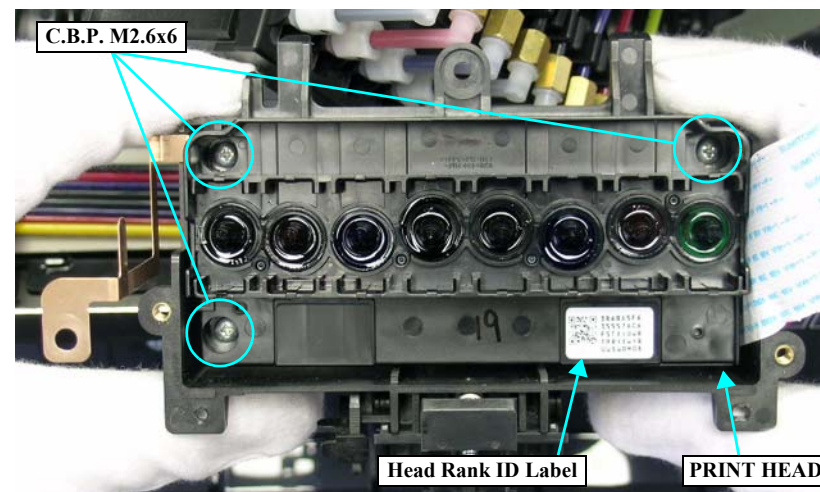

Figure 4-109. Screws Securing the PRINT HEAD
10. Remove the three screws that secure the PRINT HEAD and remove it. *See Figure 4-109.*
Whenever the PRINT HEAD is reinstalled or replaced, the corresponding adjustment must be carried out. *See Chapter 5 on page 292.* When replacing the PRINT HEAD with a new one, note down the 40-digit Head Rank ID indicated on the ID label affixed to the new PRINT HEAD. *See Figure 4-109.*